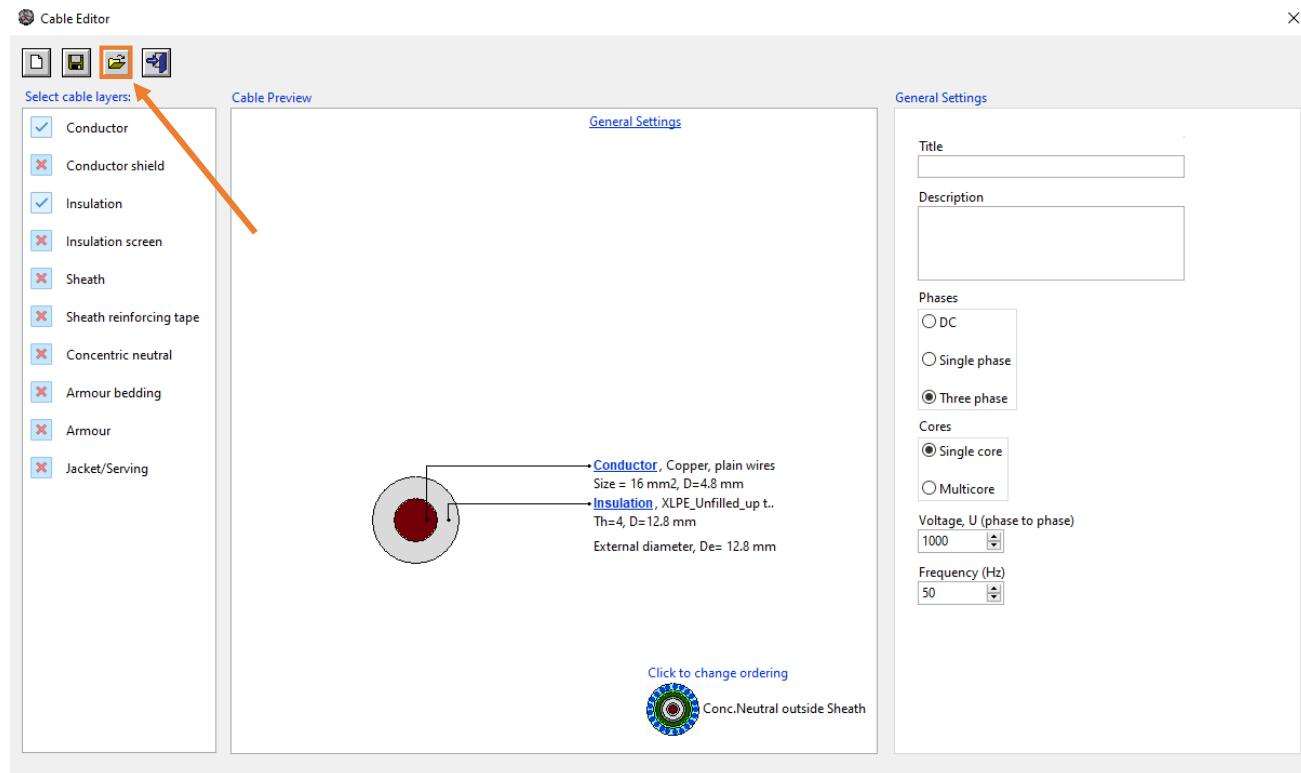

Figure 5 – Cable editor window
- ① Select the **Cable Models Show** button at the top left-hand corner of Cable HV™. This will open a navigator that allows you to add new or edit existing cables. For the example case, the cables can be selected from Cable HV's built-in cable database. Click on the manila folder to use pre-set cables as shown by Figure 5.